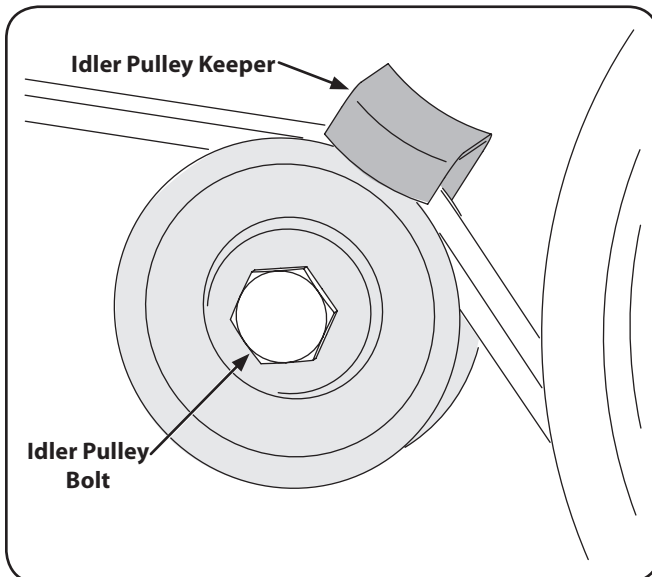

Figure 7-2
3. Remove the idler pulley bolt and move the belt from under the idler pulley keeper. See Figure 7-2.